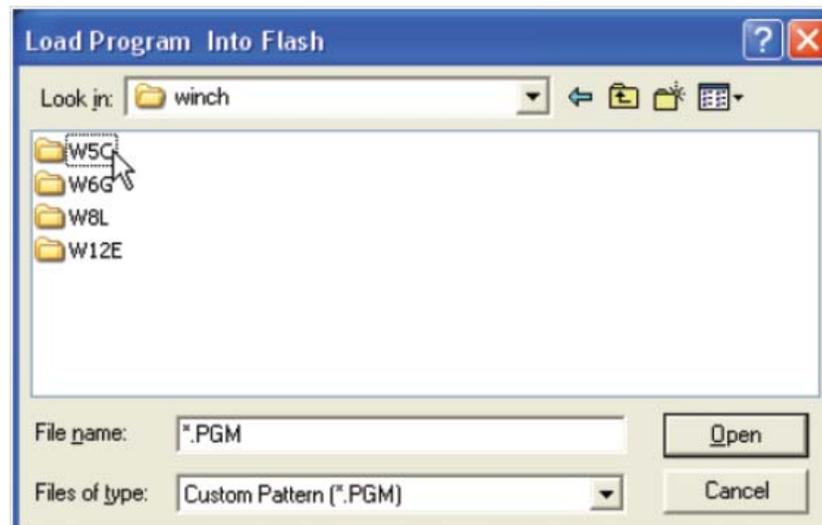
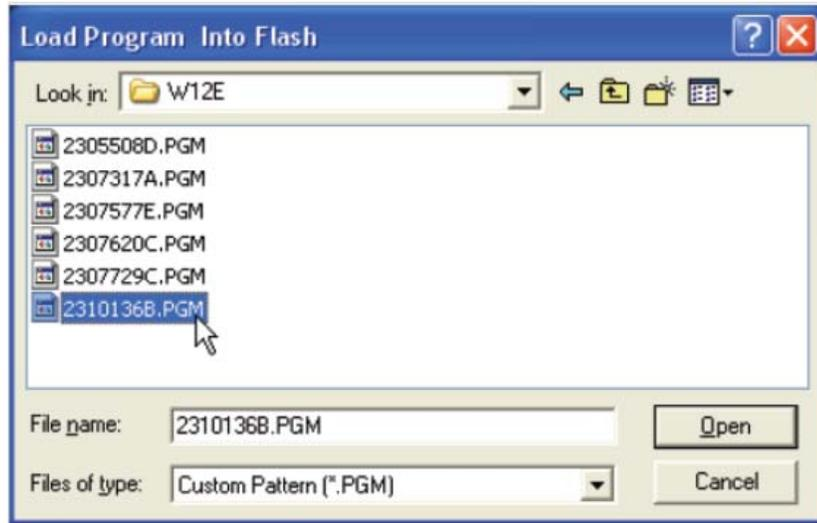
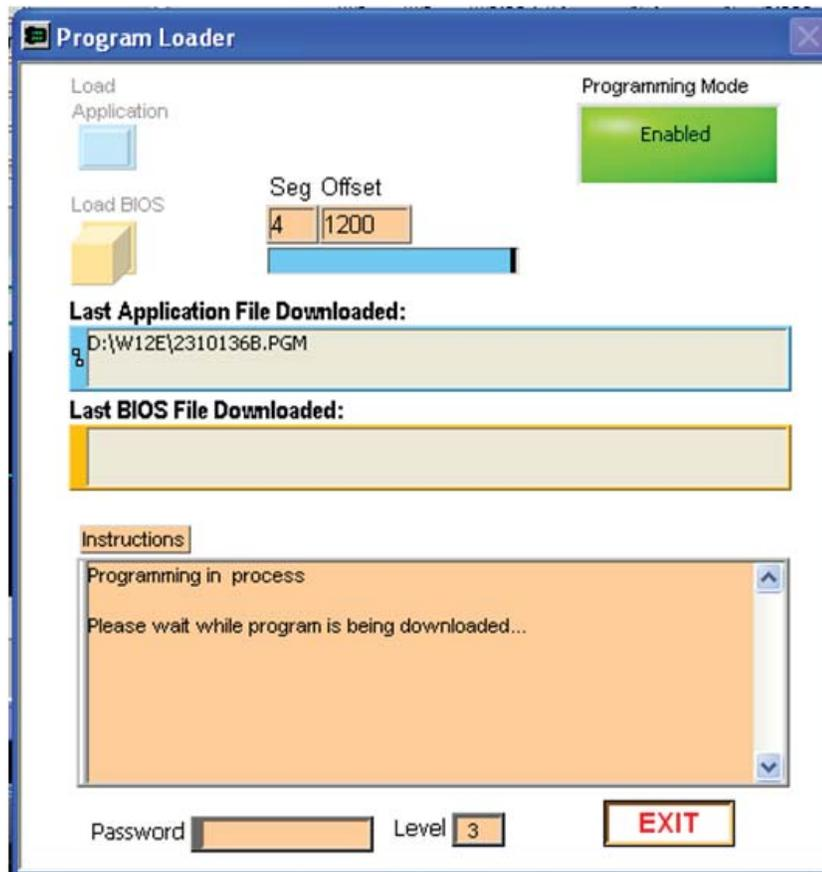
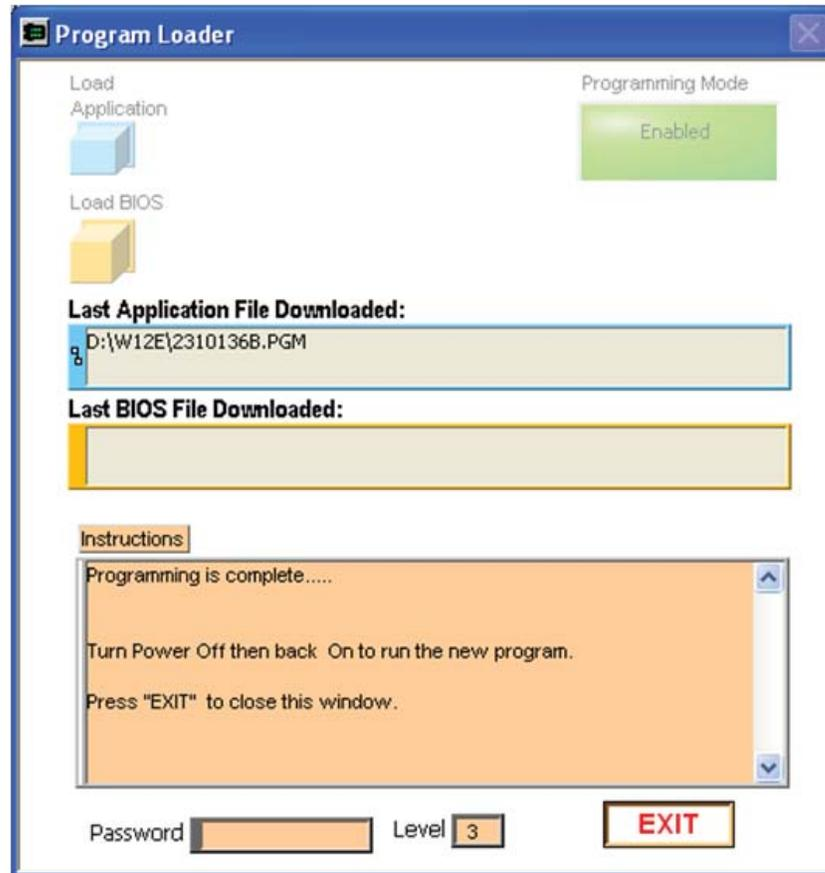

Figure 3-28 Selection Window
Figure 3-29 Program Selection
Figure 3-30 Program Loading in Process
Figure 3-31 Program Loading Complete
10. Click on the “Load Application” button as shown in Figure 3-29 and navigate to the correct program folder on the CD or in C:\WINCH if the software was downloaded from the Allied website. Programs are winch model specific and will be found in a directory named after the winch model in question as shown in Figure 3-28. Note that the only files that will be shown for selection are the ‘.pgm’ files.
11. Select the program, as shown in Figure 3-29, as an example, then select “Open” and wait for the file to be flashed onto the ECM. Depending on the speed of your computer, this may take several minutes (see Figure 3-30). When the process of flashing the ECM module is complete, the screen will be as shown in Figure 3-31.